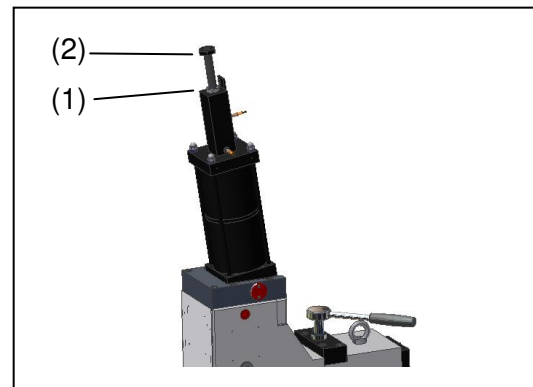

Fig. 11 Adjust stroke
- ▶ Loosen the counternut (**Fig. 11**, Pos. 1) at the adjusting screw using the flat wrench.
- ▶ Adjust the stroke as required by screwing in and out of the adjusting screw (**Fig. 11**, Pos. 2).
- ▶ Tighten the counternut again (**Fig. 11**, Pos. 1) using a flat wrench.